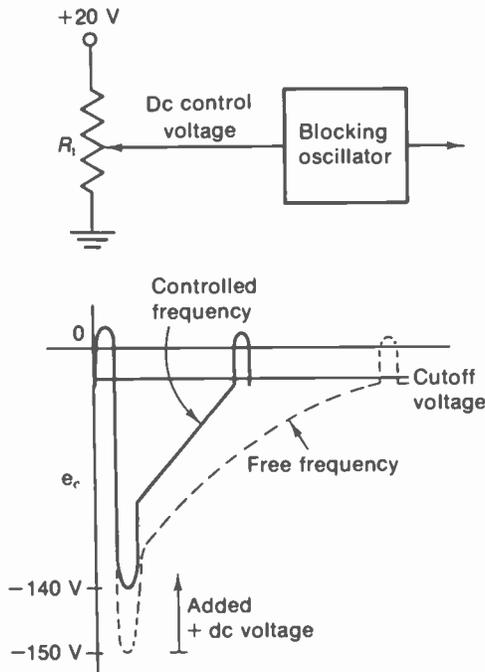

FIGURE 20-17 ADDING POSITIVE DC CONTROL VOLTAGE AT THE GRID TO RAISE THE FREQUENCY OF THE BLOCKING OSCILLATOR.
**Dc control voltage.** In Fig. 20-17 positive dc control voltage is directly coupled to the blocking oscillator grid.  $R_1$  varies the amount of dc voltage used to control the oscillator frequency. In the waveshape below, the +10 V added decreases the negative grid voltage. As a result, less time is necessary for the grid leak bias to decline to cutoff to start the next cycle. The blocking oscillator frequency is raised, therefore, by inserting positive dc control voltage to make the grid voltage less negative.